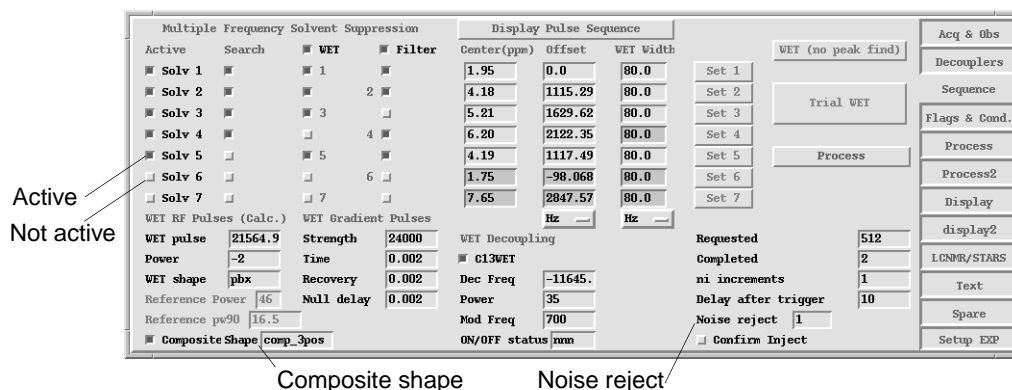

Figure 117. lclld Sequence Pane and Frequency Suppression Options
- b. Specify **acquisition and processing options** for each signal. Each **Solv** selection (see Figure 117), has five choices:
Each choice can be applied individually or in any combination. The choices are only active if the active button for a given Solv is RED, see Figure 117. Currently the software limits post acquisition filtration to a maximum of 4 signals (more than four filter buttons may be active in the tcl pane). If five or more filter buttons are active, only the first four active Solv with filtration selected are active.
14. Select **Composite observe pulse** in the LCNMR/STARS pane (Figure 114) if you can achieve a pw90 of 3.0 or 4.4 μ s, this produces better spectra. Two composite shapes, comp_3g and comp_4g, are provided with the VNMR LC software. Enter the desired composite shape in the Sequence pane (Figure 117) properly set pulse width for that shape as follows:
16. Set **Noise reject** to **3** in the **Sequence** pane, see Figure 117.